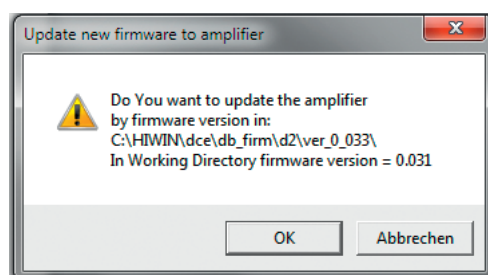

Fig. 6.68 "Upgrade/Downgrade firmware" – "Update new firmware to amplifier"
- ▶ “Lightening” opens a new **“Update new Firmware to amplifier”** message window. Press **“OK”** button (see Fig. 6.68).